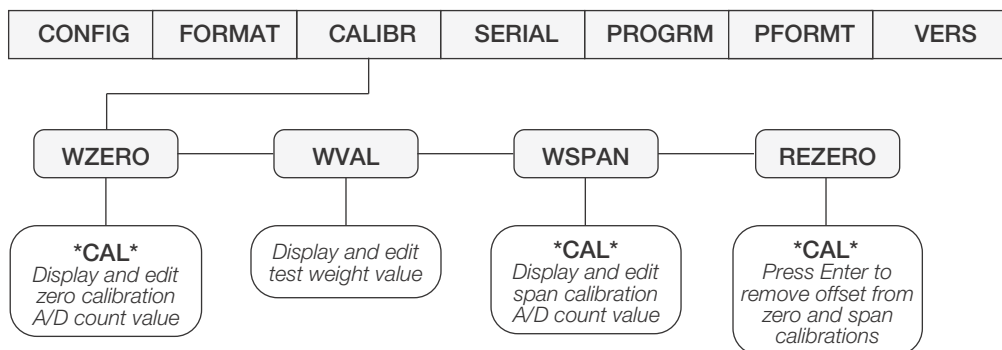

Figure 5-1. Calibration (CALIBR) Menu
2. Press $\triangleright$ until the display reads *CALIBR* (see Figure 5-1). Press ∇ to go to zero calibration (*WZERO*).